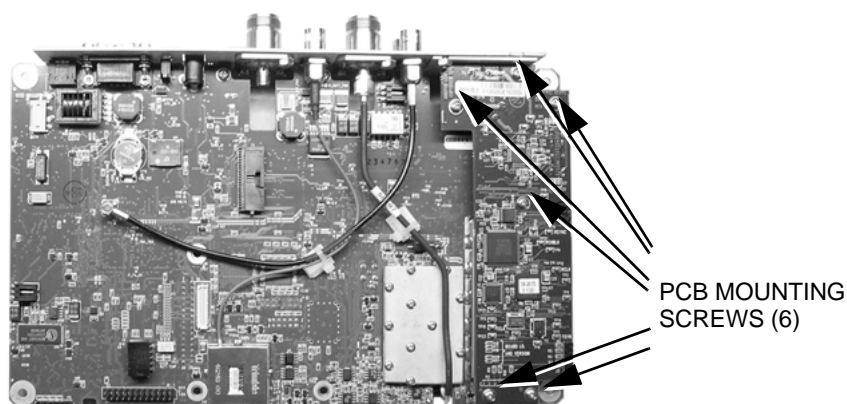

Figure 4-10. T1/E1 Tester PCB
3. Remove the six T1/E1 PCB mounting screws and carefully lift the PCB assembly disconnecting J2 (T1/E1 PCB) from J6 (main PCB) (Figure 4-10).